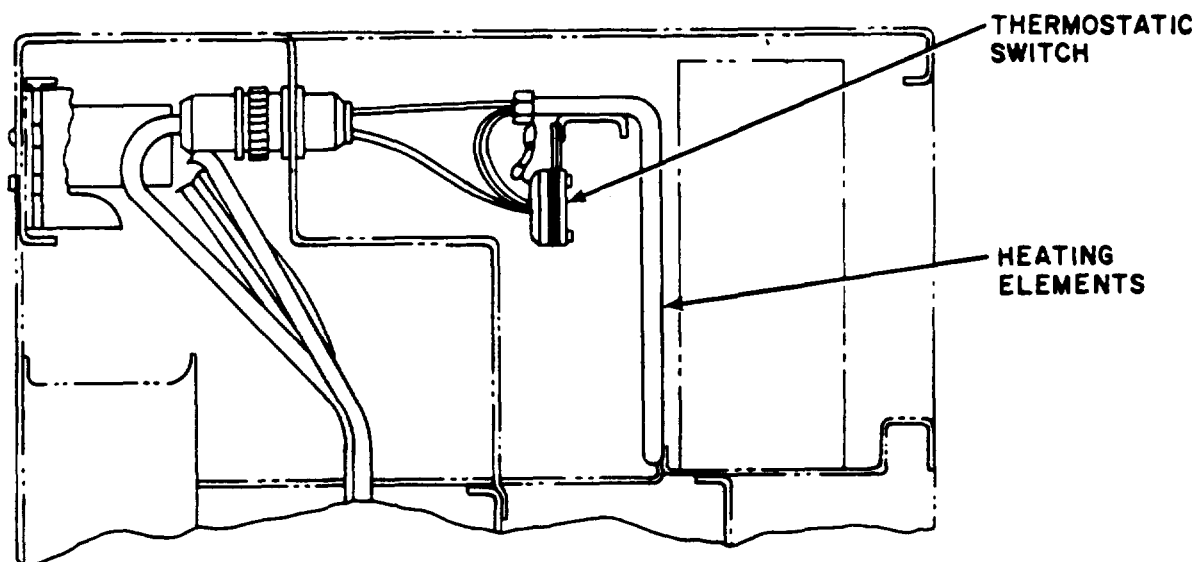

Figure 1-5. Air Conditioner, Heating Section.
c. HEATING AREA. See Figure 1-5.